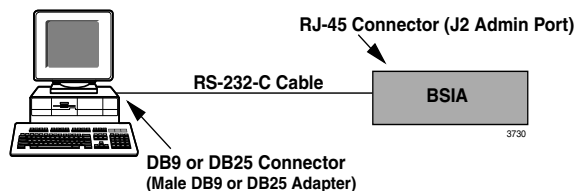

Figure 21 PC to BSIA Connection
1. Insert one end of the RS-232-C cable with a DB9 or DB25 adapter into the serial port in the back of the PC (see Figure 21).